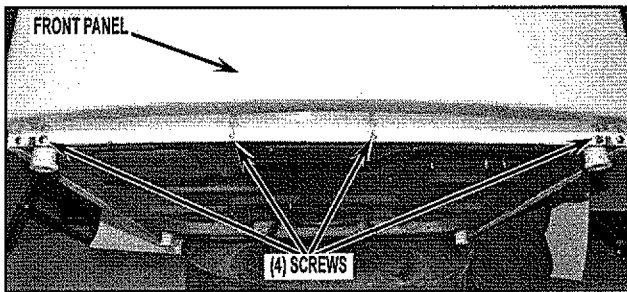

FIGURE 6
- Remove four (4) screws from bottom of front panel as shown in *Figure 6*.